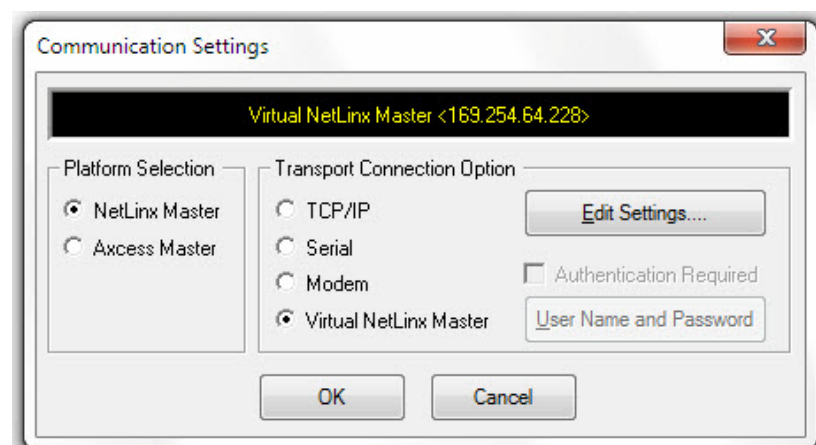

FIG. 34 Communications Settings dialog
3. Click the **Communications Settings** button to open the *Communications Settings* dialog (FIG. 34).